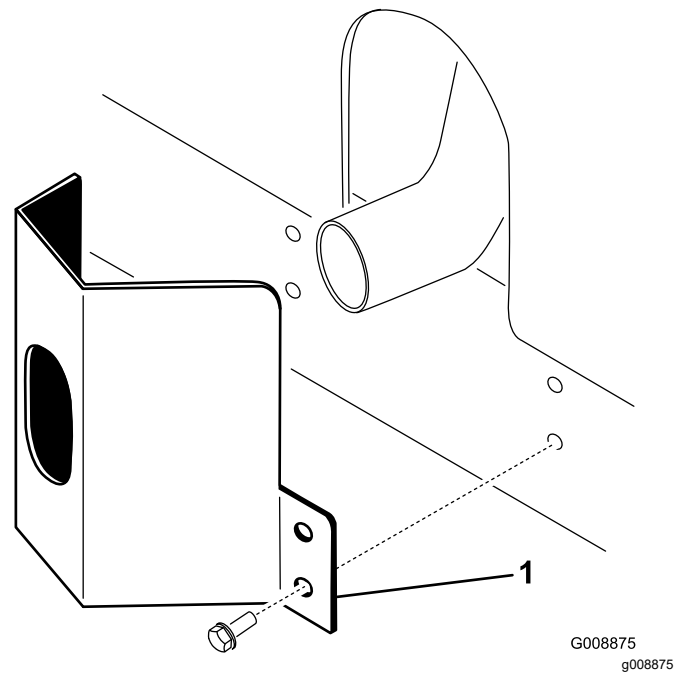

Figure 11
2. Secure the exhaust guard to the frame with 4 self-tapping screws (Figure 11).
1. Position the exhaust guard around the muffler while aligning the mounting holes with the holes in the frame (Figure 11).